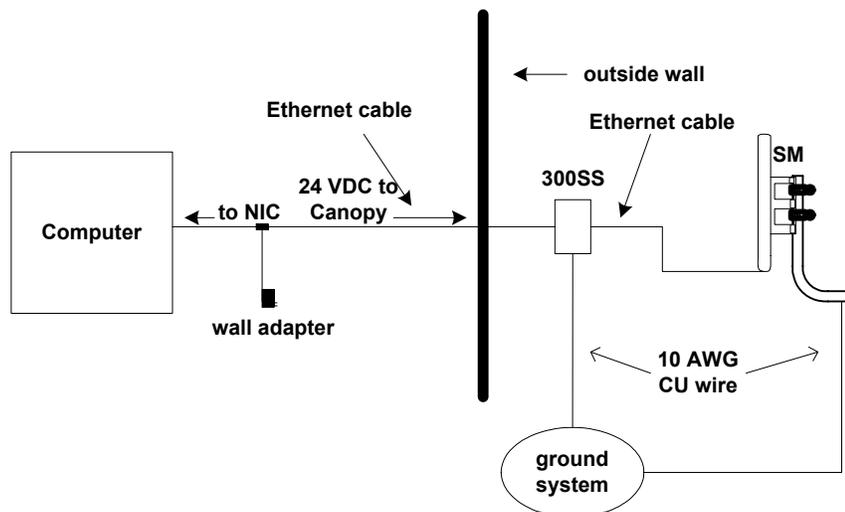

Figure 30: SM and computer wiring
2. In the powered down state, attach the cables to the SM. (See Cabling the SM on Page 70 and Figure 30 on Page 77.)